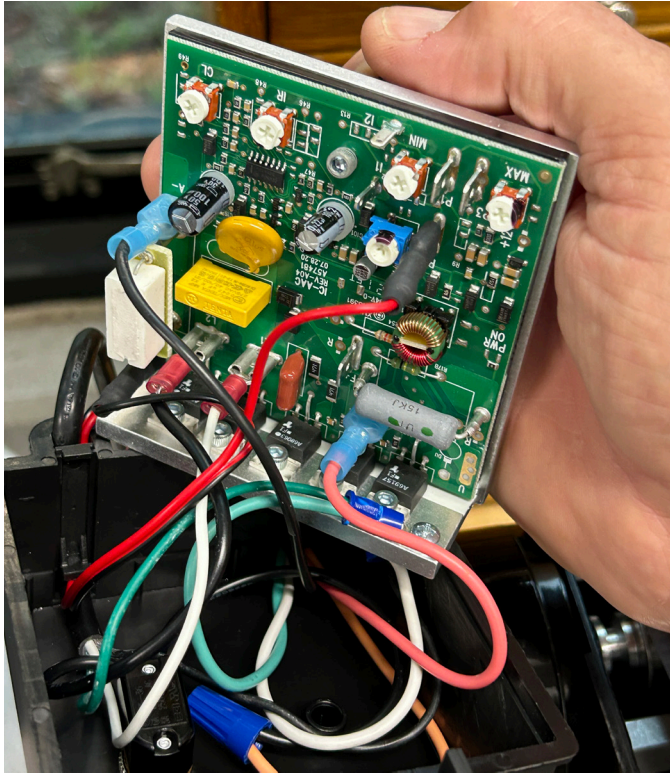

FIGURE 8
F. Pull the speed control board free from the housing (see Figure 8).